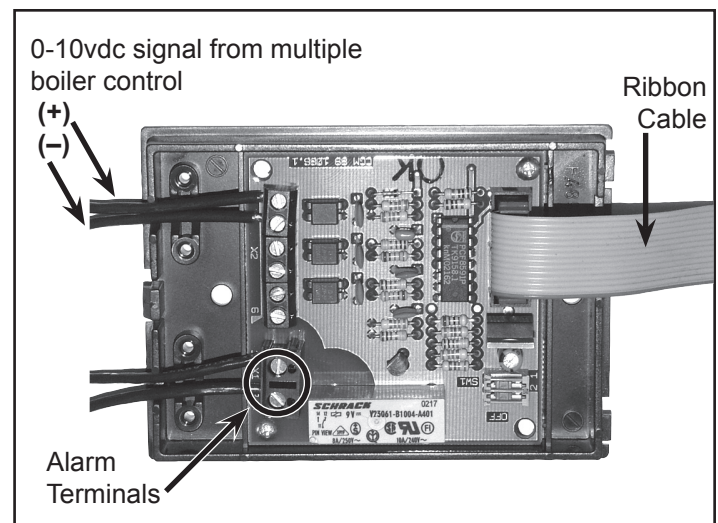

Figure 2 - HAM Wiring Connections
4. Route multiple boiler controller wires and alarm wires through the boiler cable ways, along with the other wiring. Strip ends and attach to the terminals shown in Figure 2. Use the cable clamp supplied in the HAM kit to secure the alarm wires to the module.